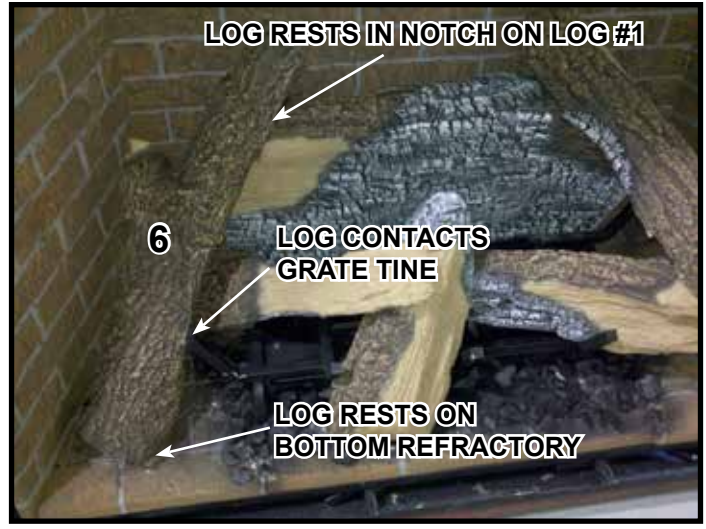

Figure 11.
**Log #6 (SRV2282-706):** Place Log #6 into appliance as shown in Figure 11. Base of log will sit on bottom refractory and notch on log will rest against grate tine. Lean top of log into notch on Log #1. See Figure #2.